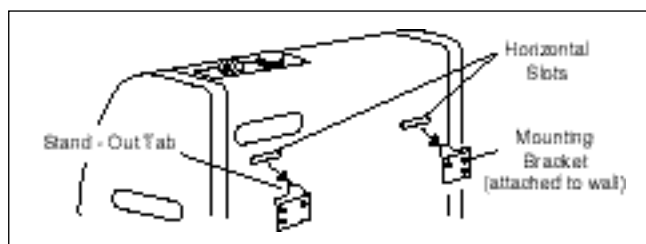

Figure 7
2. After mounting brackets are installed, hang heater on mounting brackets in holes provided at the rear of heater (See Figure 7.).